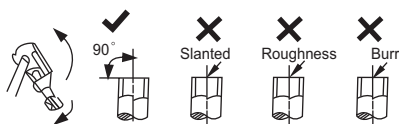

Fig. 19 —Pipe Cutting
- a. Cut the pipe, with a pipe cutter, at 90° degrees (see Fig. 19).